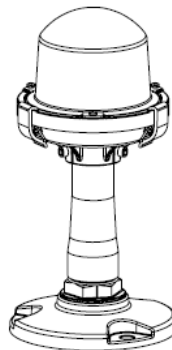

Figure 5-3
- Put a new inner cover into the holder and fix it with a steel wire; the outer cover is aligned with the set hinge on the holder and then fix it with the pressing bracket and M4×10 cross pan head screws (see Figure 5-3).